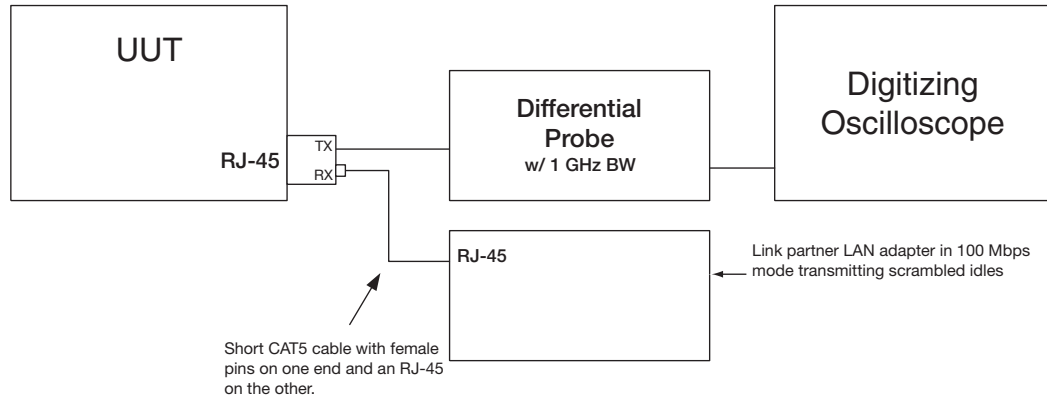

Figure I-2 Test Setup Number
1. Connect the Test equipment and Unit Under Test (UUT) as shown in Figure I-2 on page I-138 (which shows the setup for test specifications 9.1.2.2, 9.16, and 9.1.8).
1. Connect the test equipment and Unit Under Test (UUT), as shown in Figure I-2.